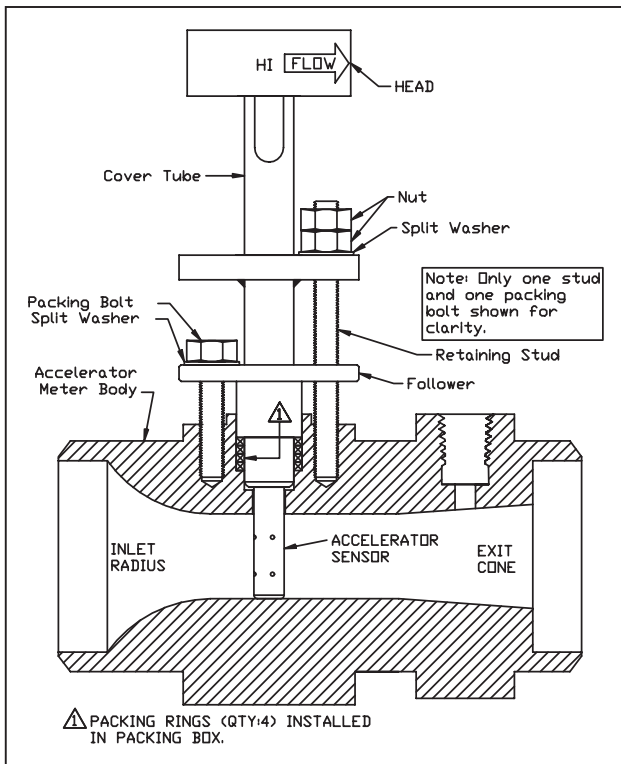

Figure 9. Final Assembly
- Installation is complete (see Figure 9 for Final Assembly.)